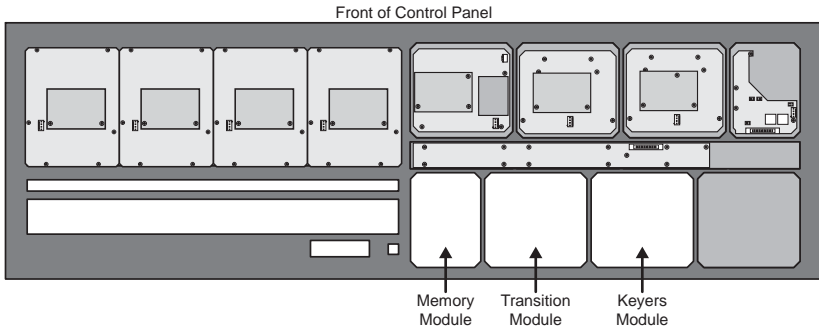

Figure 2 Blank Module Plates to Remove — Vision 2X
8. Identify the **3** blank module plates to be removed (**Figure 2**). These are the first three module slots in the same row as the crosspoint plates.